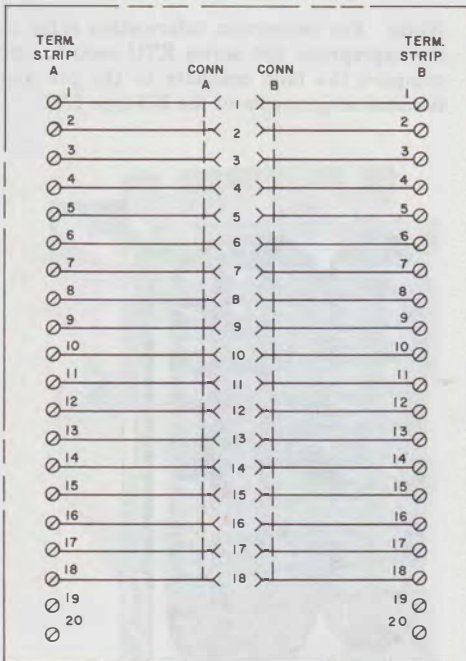

Fig. 2—259A KTU (MD) Schematic, Arrangement of Screw Terminals
(c) *Design Features:***259A KTU (MD) Fig. 2**